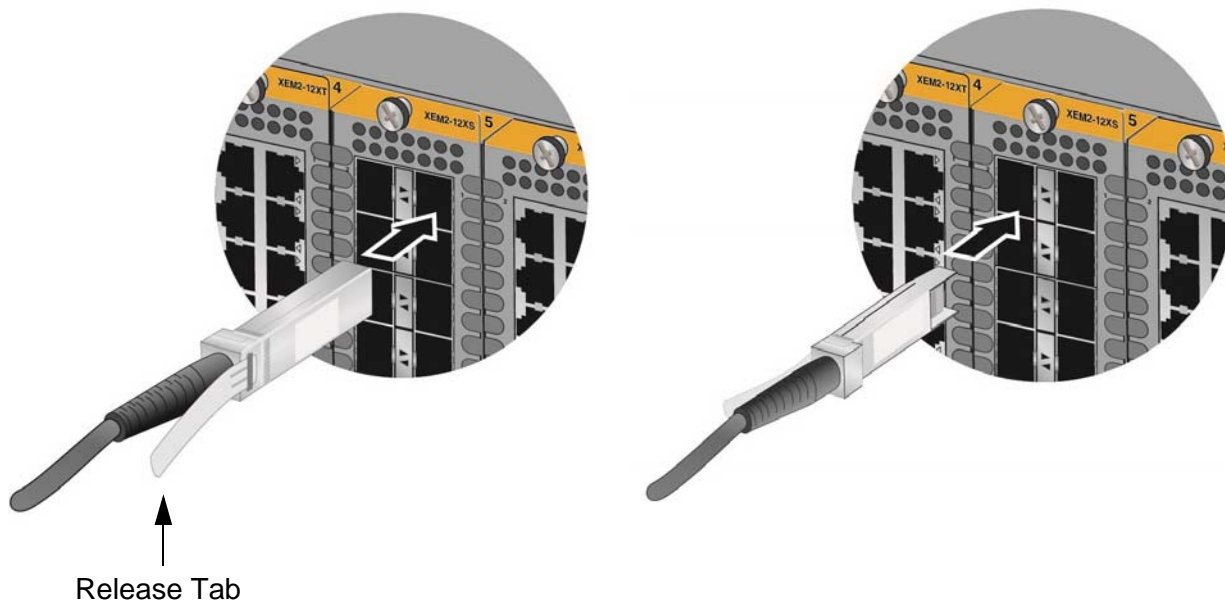

Figure 101. Installing SP10TW Cables in the XEM2-12XS Line Card
- ❑ XEM2-8XSTm or XEM2-12XS Line Card - To install a SP10TW direct connect cable in an odd numbered slot, position the transceiver with the release tab on the right. To install a cable in an even numbered slot, position the release tab on the left. Refer to Figure 101 on page 142. Slide the connector into the slot until it clicks into place.